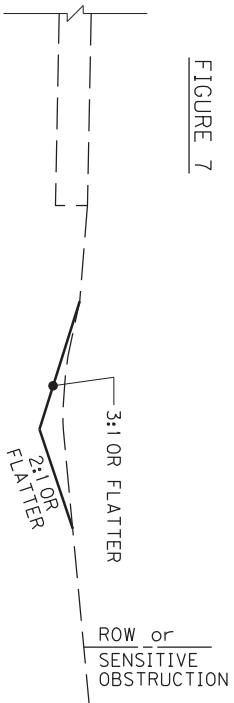

FIGURE 7
9. AS SHOWN IN FIGURE 7, IN SOME SITUATIONS, ALL THAT MAY BE REQUIRED IS TO CLEAN OUT THE EXISTING DITCH AND RESHAPE IT TO THE PROPOSED DIMENSIONS. THE MATERIAL EXCAVATED FROM THE DITCH MAY BE RE-USED ELSEWHERE ON THE PROJECT, PROVIDED THE ENGINEER DETERMINES THE MATERIAL REMOVED FROM THE DITCH IS SUITABLE FOR THE INTENDED RE-USE.